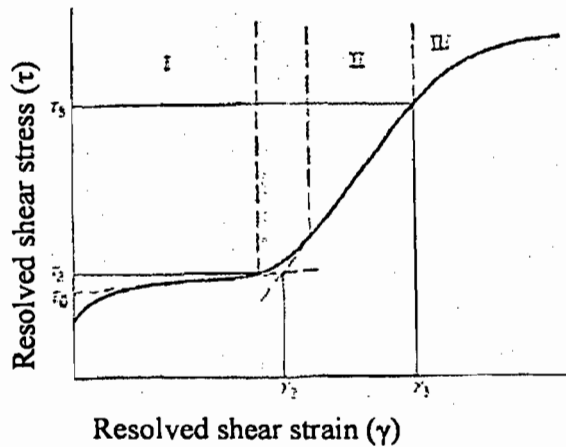

Figure 2. A flow curve for an FCC single crystal
- c. During strain hardening of an FCC single crystal; there are three stages in the deformation path as shown in **Figure 2**,